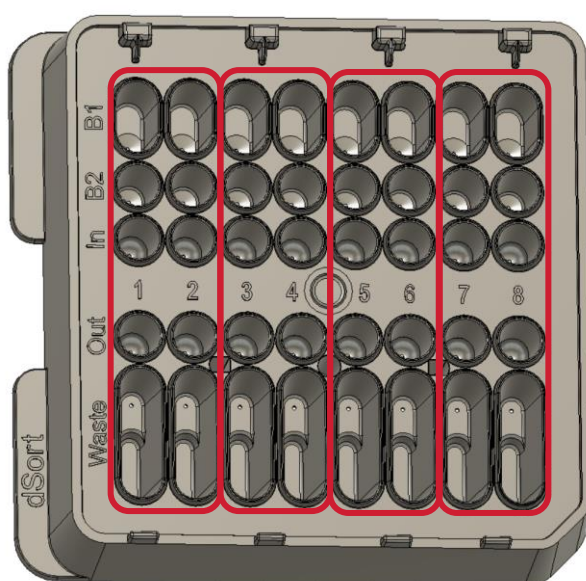

Fig. 3.1. Top view of the Xdrop DE20 Sort Cartridge with the wells (B1, B2, In, Out and Waste) and lanes (1–8) marked. Lane pairs are circled in red.
Xdrop Sort can run up to 8 lanes in parallel, but it is also possible to select fewer lanes. When selecting lanes, note that the lanes are paired (Fig. 3.1) with the threshold level for sorting applying to both lanes in a pair. When running all 8 lanes, choose samples with similar positive droplet fluorescence levels for the paired lanes. If your samples have issues such as low fluorescence or high-level background fluorescence, we advise using only odd or even lanes, and then running the remaining samples in a subsequent run on the opposite lanes. Example: First run: lanes 1, 3, 5, and 7, Next run: lanes 2, 4, 6, and 8. The cartridge can be used twice.
1. Unpack the Xdrop DE20 Sort Cartridge and place it on a clean flat surface in a LAF cabinet or a similar clean, dust-free environment. The layout of the DE20 Sort Cartridge is depicted in Fig. 3.1.
8. Initially, droplets are shown in the background droplet colors (red and blue). One dot indicates the highest value detected within one second. Thresholds for detection and sorting are set by sliding the white and green lines, respectively, using the touch screen. Move the threshold lines between the lower and upper fluorescent populations. Set the thresholds for each lane pair (see Fig. 3.1 for view of lane pairs) for **all** selected lane pairs, then press **Start sorting**, which will activate the sorting across all lanes. The Xdrop Sort sorts the droplets from each selected lane and the count of sorted droplets can be followed separately for each lane.
During the run, the user can adjust the fluorescence threshold for each lane pair (see Fig. 3.1 for an overview of lane pairs). Droplets with a fluorescence level higher than the detection and sorting thresholds are sorted into the well **#Out** and will appear as green dots on the droplet view screen. Droplets with a fluorescence level below the respective thresholds are directed to the waste well **#Waste**.